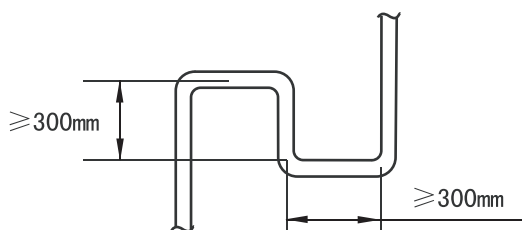

Fig.5-2
3. When the outdoor unit is on the top position and the difference of level is over 20m, it is recommended that set a oil return bend every 10m in the air pipe of the main pipe, the specification of the oil return bend refers to Fig.5-2.
Pipe name	Code (As per the Fig. 5-2)
e.x.1: Refer to Fig.5-2, the capacity of downstream units to L2 is $71 \times 2 + 140 + 28 = 310$, i.e. low pressure gas pipe for L2 is Φ22.2, high pressure gas pipe is Φ19.1, high pressure liquid pipe is Φ12.7.
- Take Fig.5-2 as an example. Provided that the equivalent length of all pipes in this system is larger than 90m.